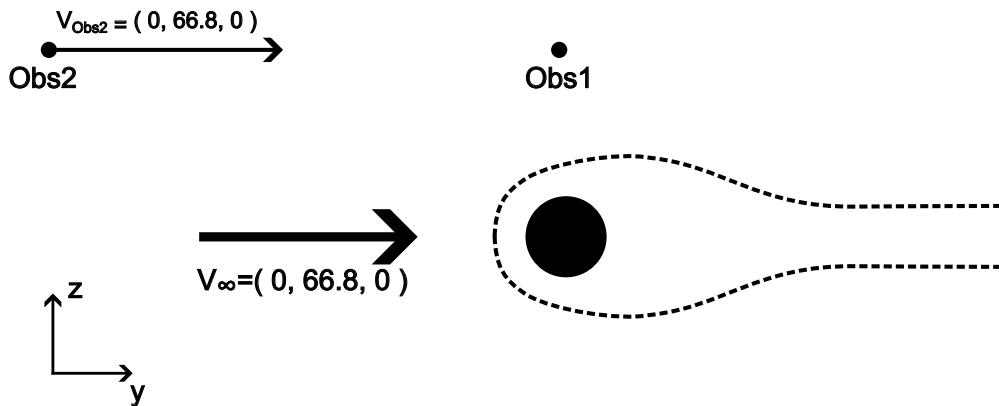

Fig. 1: FWH Observer and surface motions - CFD frame of reference
We're going to use the FWH solver to calculate noise at two observer microphones - '*Obs1*' and '*Obs2*' (see Fig 1). '*Obs1*' is an observer that is a fixed distance away from the cylinder - if we consider the cylinder in a wind tunnel, we could consider '*Obs1*' as a microphone attached to the wind tunnel wall. '*Obs2*' is different, and actually flies through the air at the same speed as the freestream air.
*Obs1* moves through the FWH medium at a constant displacement from the cylinder centre (see Fig 1). We see from our post-processing that the noise experienced by *Obs1* is dominated by a constant 10 Hz component, which is the shedding frequency of the cylinder. Various harmonics of the 10 Hz signal are present in the power spectral density plot for *Obs1*.